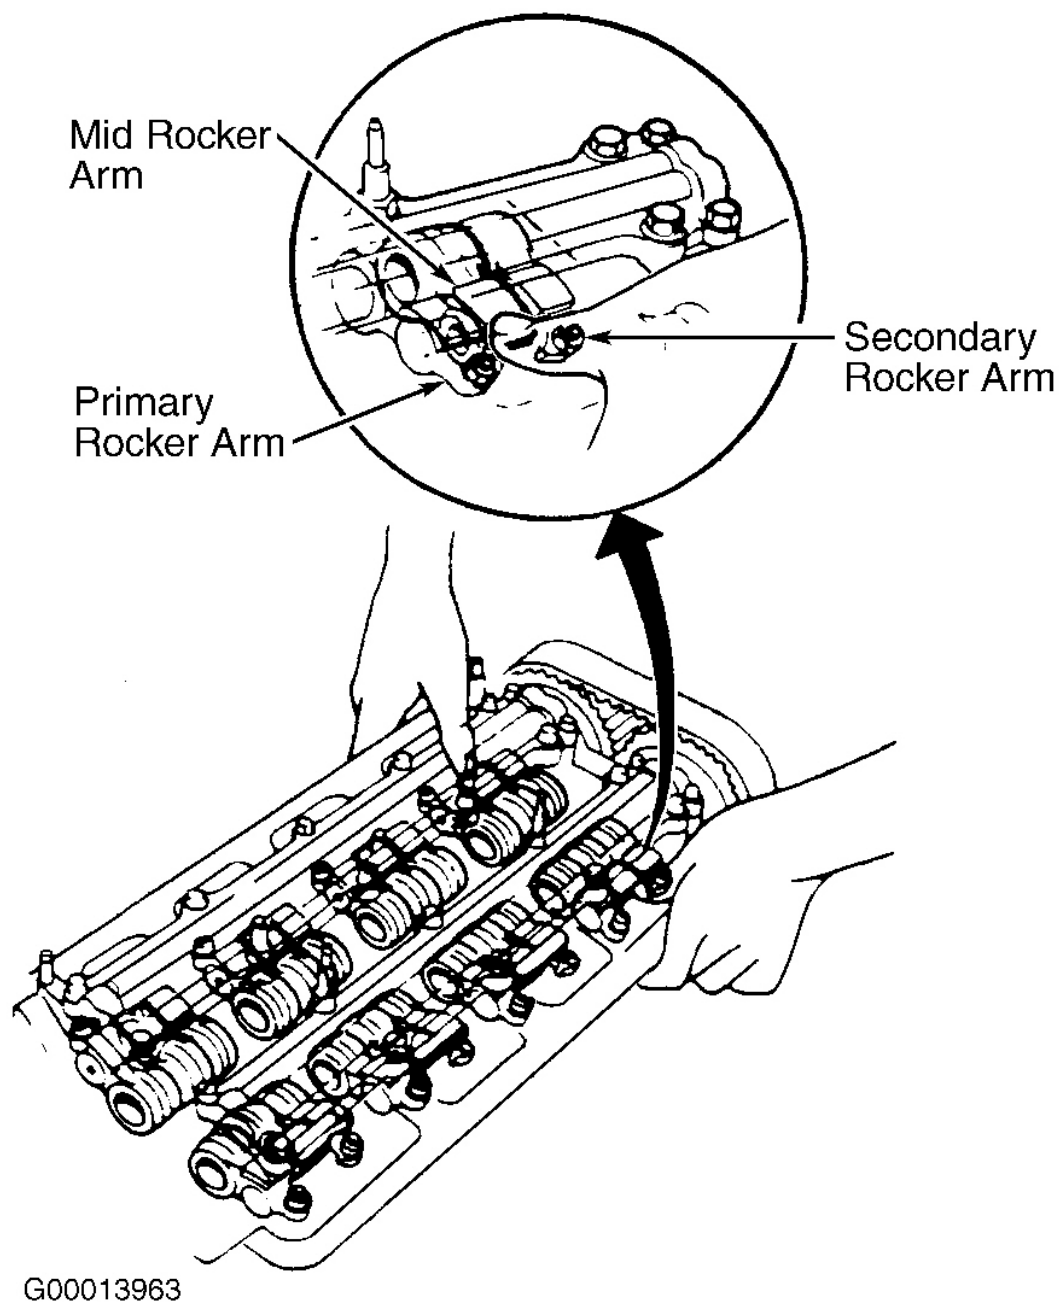

Fig. 19: Checking Mid Rocker Arm Movement (DOHC)
1. Before rocker arms are removed, set cylinder No. 1 to TDC. Ensure mid (connecting) rocker arm on cylinder No. 1 moves independent of primary and secondary intake rocker arms. See **Fig. 19**. Check remaining mid rocker arms with corresponding cylinder at TDC. If mid rocker arm does not move independent of primary and secondary rocker arms, remove suspect rocker arm assembly. Check movement of timing piston and synchronizing pistons.